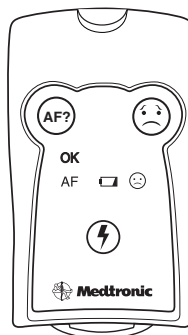

Figure 7. Patient Assistant with all symbols displayed for reference
3. Listen for a long beep or look to see if the telemetry status light is solid green. Lift the Patient Assistant to see what appears on the display area (Figure 7).